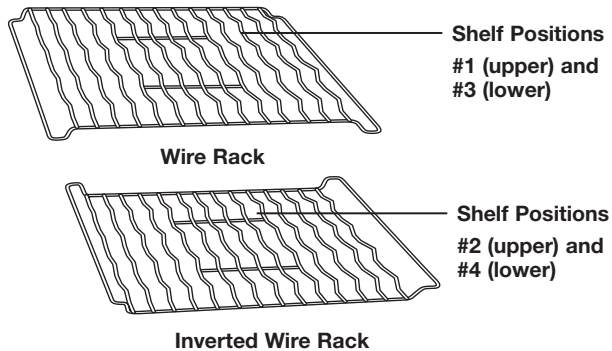

Figure 5
9. Open the Glass Door. Place the Wire Rack in Shelf Position #2, #3, or #4 (see Figure 5) depending on the height of the pan and food or recipe directions. Use the Oven Pan or an appropriate baking container. (See Cooking Containers section of this Owner's Manual.) If you would like your food browned top and bottom, place food directly on Rack and close Glass Door. Bake according to package or recipe time.
Use the upper shelf position #1 or #2 when possible (See Figure 5.)
4. Open the Glass Door. Place the Wire Rack in the top Shelf Position, with the Wire Rack up or inverted (see Figure 5, positions #1 and #2) leaving approximately 1 to 2 inches between the food and the Upper Heating Elements. (See Figure 6.)